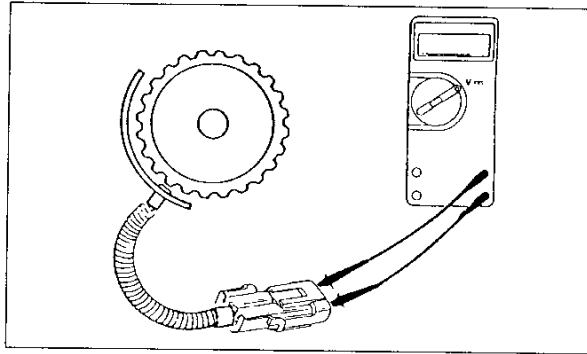

FIG. 1.1.41
**Correction:** With engine running, measure AC voltage signal between 500 - 800 RPM and record reading (Fig. 1.1.41). Above 1000 RPM, the VAC should be greater. If it is not, replace the sending unit.